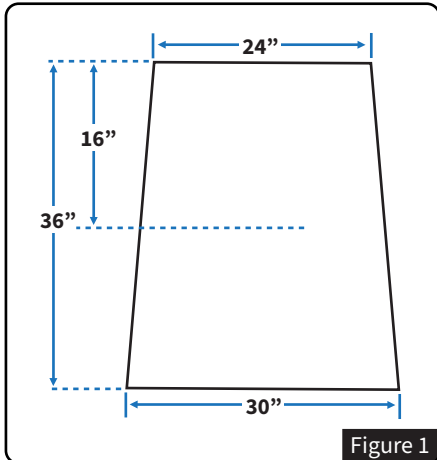

Figure 1
- Dig two holes **20' apart** to the depth and dimensions shown in *Figure 1*.